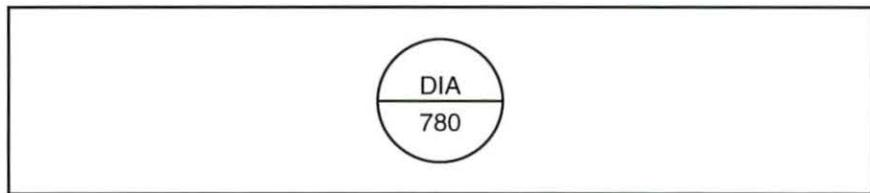

Figure 56. Instrument Tag
14. Determine the measured variable indicated in the instrument tag in figure 56.